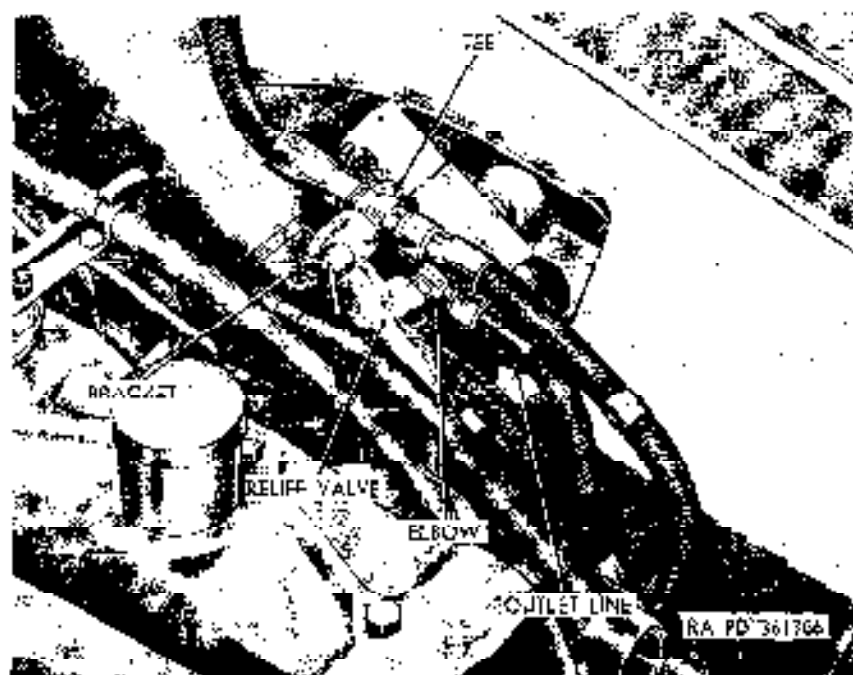

Figure 261. Top right view of relief valve installed.
c. Pitman-Arm Removal (fig. 261).
- (1) Remove nut and lockwasher (fig. 261) securing pitman arm to left end of pitman-arm shaft.
- (2) Pull pitman arm from shaft.
- (3) Disconnect rear end of upper drag link (fig. 261) from pitman-arm ball stud (par. 249).
d. Pitman-Arm Installation (fig. 261).
- (1) Connect rear end of upper drag link to pitman-arm ball stud (par. 249).
- (2) Set front wheels in straight-ahead position, and set steering wheel in the midposition (3(1)(d) above).
- (3) Position pitman arm on splined shaft with arm pointing upward.
- (4) Push pitman arm onto shaft until nut can be installed on threaded end of shaft. Install lockwasher and nut on shaft and tighten.
- (1) Remove dust shield (fig. 261) from pin on screw end of upper drag link.
- (1) Place rear end of upper drag link (Fig. 261) on pitman-arm ball stud, and screw adjusting plug (fig. 265) into end of drag link but do not tighten.
- (2) Place front end of upper drag link on upper ball stud on relay lever (fig. 261), and screw adjusting plug into end of drag link but do not tighten.
- (3) Install dust shield (fig. 261) at both ends of drag link, and lubricate drag link (par. 67).
- (5) Repeat in (4) above at front end of upper drag link.
i. Lower Drag Link Removal. Remove lower drag link (fig. 261) from ball studs at relay lever and steering arm (*a* above).
e. Relay Lever Removal (fig. 261).
- (1) Remove front end of upper drag link from upper ball stud at relay lever (*a* above).
- (2) Remove front end of lower drag link from lower ball stud at relay lever (*a* above).
- (3) Remove safety nut and cap screw at left side of relay-lever bracket.
- (4) Remove lubrication fitting from outer end of relay-lever pin, and install cap screw in lubrication fitting hole. Pulling on cap screw, pull relay lever pin from bracket, and remove lever from bracket.
j. Relay Lever Installation (Fig. 261).
- (1) Position relay lever in bracket on frame left side rail, and install relay-lever pin in bore of bracket and lever.